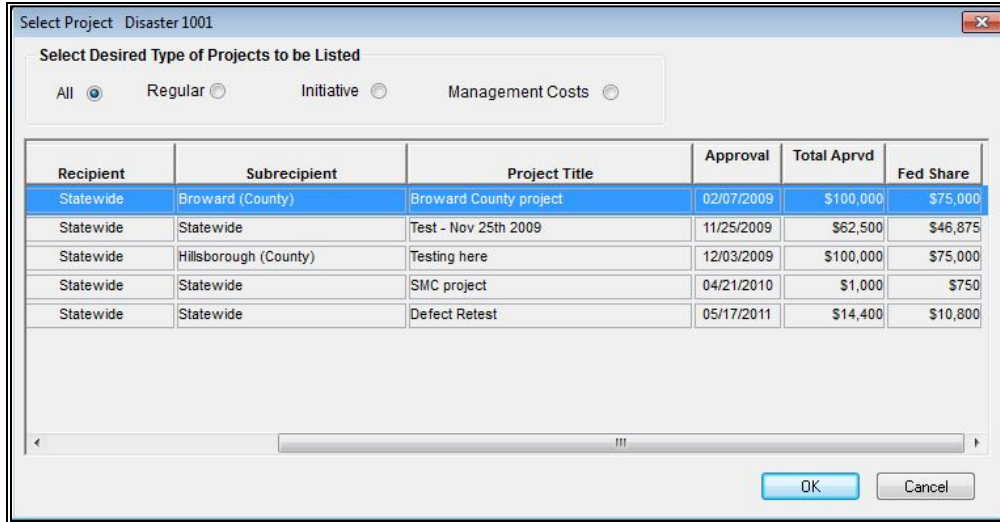

Figure 10-6: Allocations Project List - Right Side
- Scroll to the right to see the other Allocations Project List data fields (Figure 10-6).